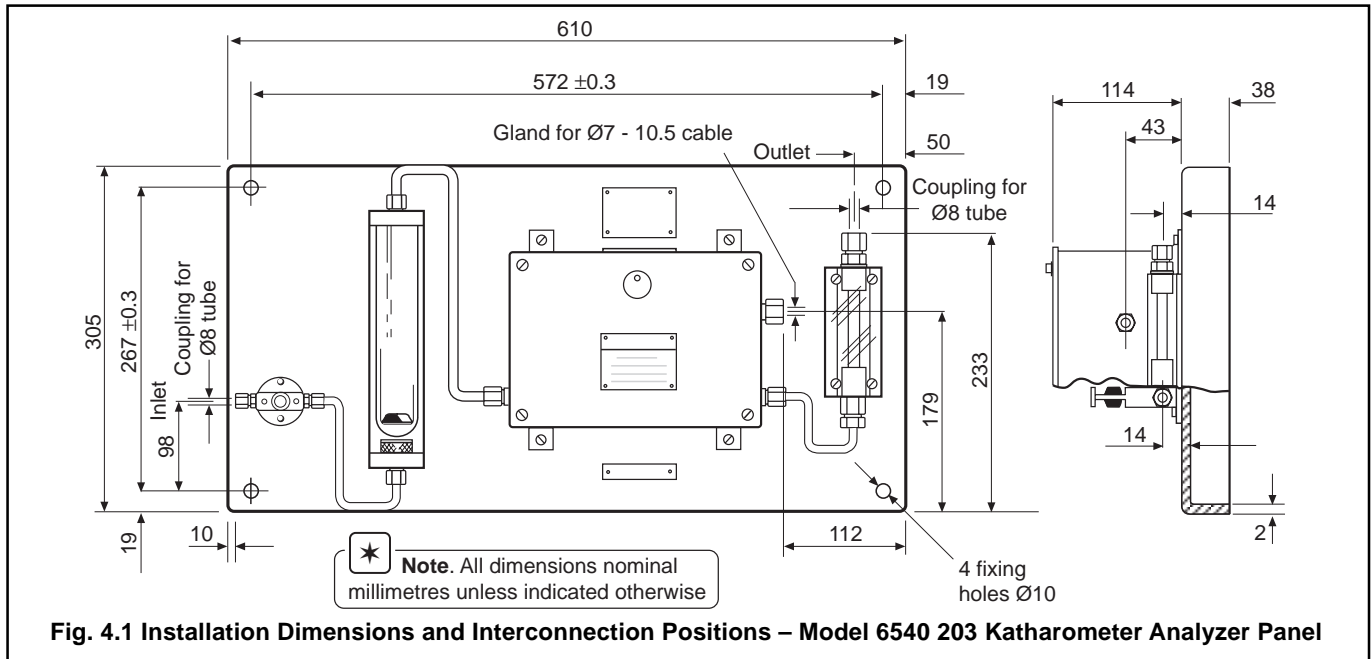

Fig. 4.1 Installation Dimensions and Interconnection Positions – Model 6540 203 Katharometer Analyzer Panel
4.1.2 Katharometer Analyzer Panels – Fig. 4.1 and 4.2